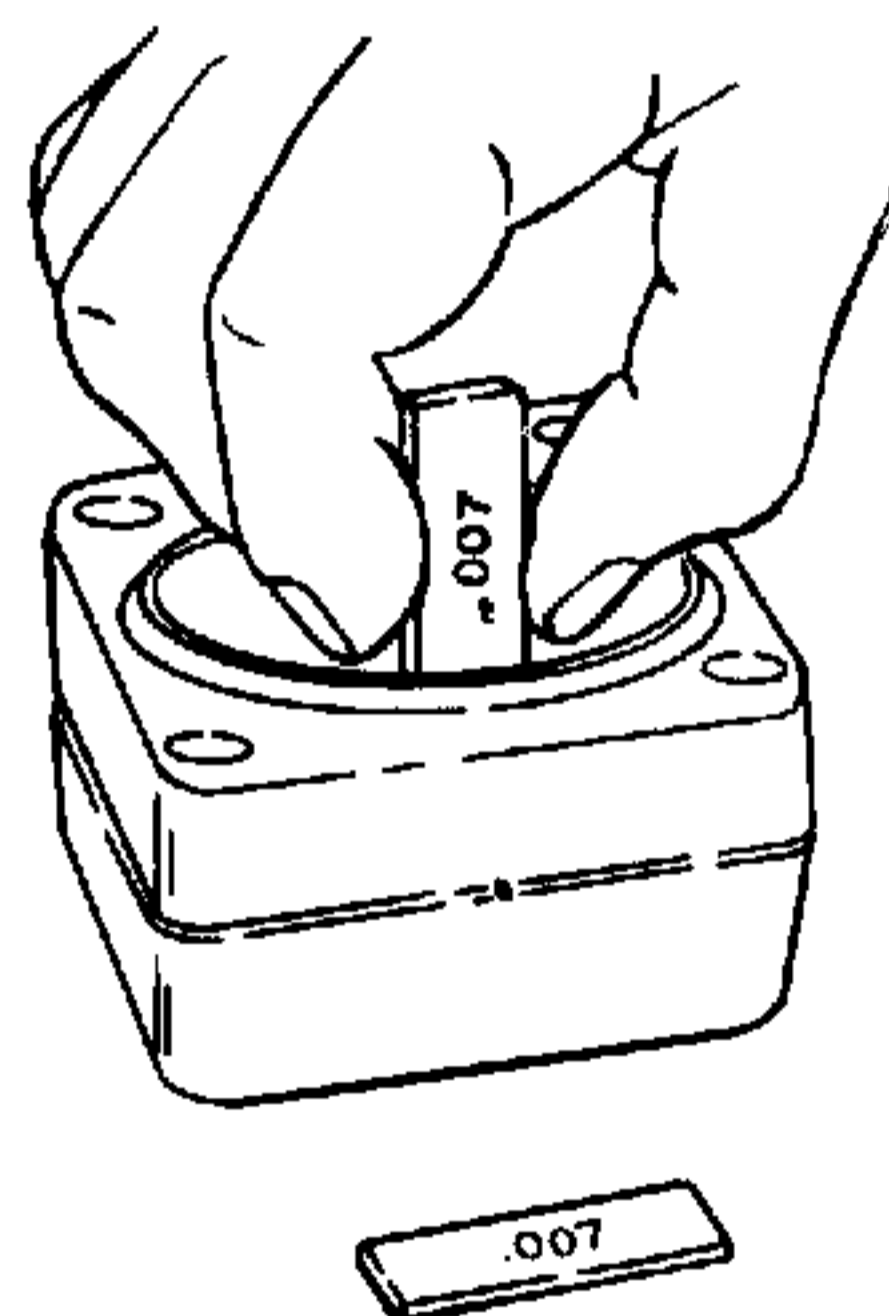

Figure 5-43. Installing Shims.
- h. Establish concentricity between commutator and ring assembly (17) and drive plate (20) as follows:
- (1) Place metering ring (13) on a hard flat surface. Place assembled metering package into metering ring with commutator cover (16) down, such that drive plate (20) is partially out of metering ring. A suitable wood block under metering package will hold it in this position. Refer to Figure 5-43.